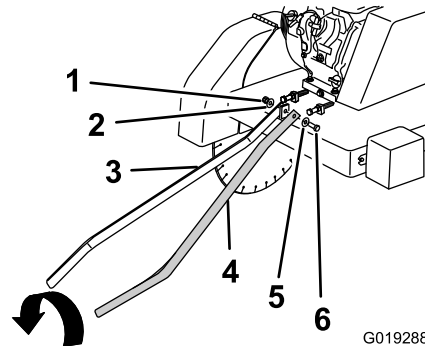

Figure 35
- A. Remove the bolt, washers, and nut that secure the pointer to the mounting tab on base of the machine (Figure 35).
- B. Align the pointer to the other side of the machine (Figure 35).
- D. Secure the pointer to the base with the bolt, washers and nut removed in step A (Figure 35).